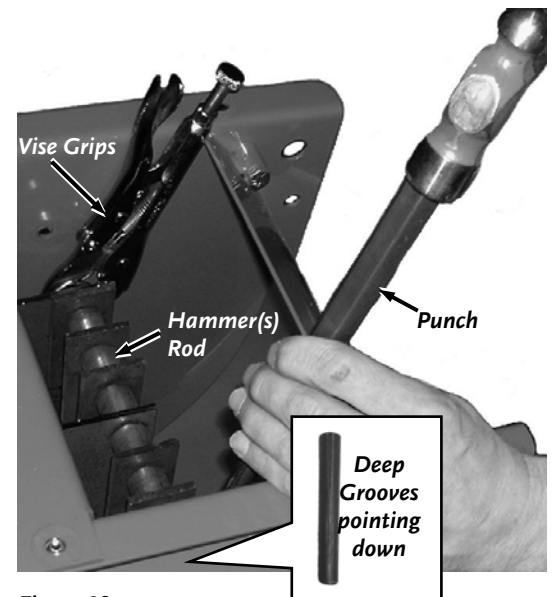

Figure 28
4. Rotate the Hammer(s) Rod until the Deep Grooved end of the Groove Pin at the end of the Rod is pointing down (**Figure 28** on page 23).
5. While holding the Hammer(s) Rod in place with Vise Grips, drive out the Groove Pin with a punch (**Figure 28** on page 23).